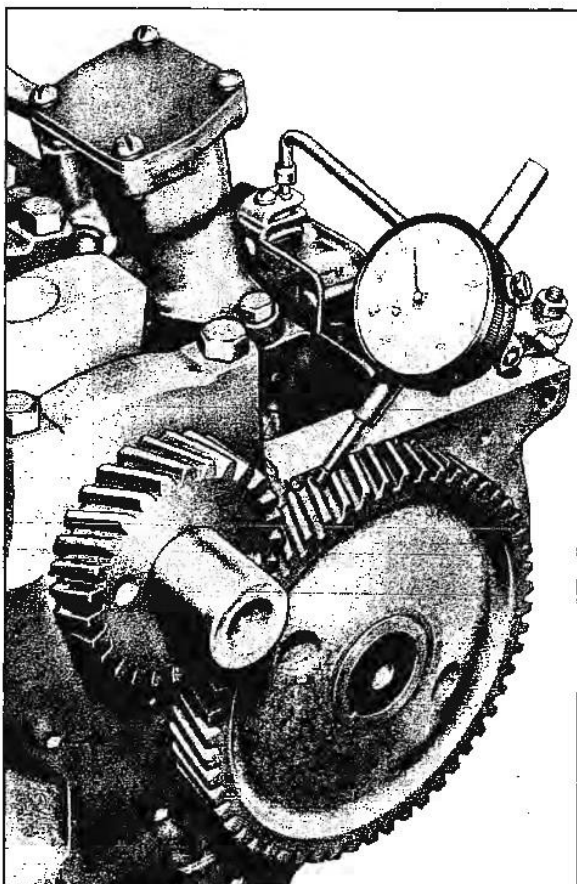

Fig. 6-45 Checking Camshaft Gear Backlash
5. Check the backlash between the timing gear teeth with a dial indicator (Fig. 6-45). The backlash should not be less than .004" nor more than .006".